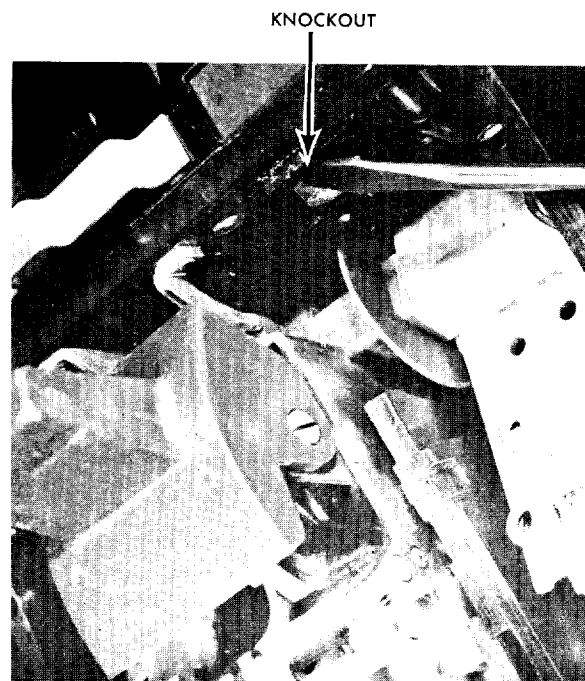

Fig. 5. Removing Knockout
**STEP 2** Be sure circuit breaker is de-energized or removed from circuit. Insert a small screwdriver into the slot on the under side of the knockout and pry outward. Fig. 5. *Be careful not to eject chips into the trip unit case. Clean all chips from the breaker case.*
**STEP 7** To bring the accessory leads out the side of the breaker, file necessary openings in the breaker cover (accessory pole side) 5" from the load end of the breaker cover, not including lug cover. See Fig. 5.